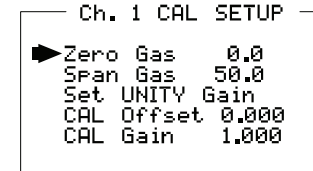

Figure 2-6. Cal Setup Menu
**The SPAN gas used must match the value specified since this is what the HA20 will indicate after a successful SPAN calibration. The Span Gas value may be edited if it becomes necessary to apply a different gas concentration (see Figure 2.6 [Span Gas] in Section 2.2.5).**